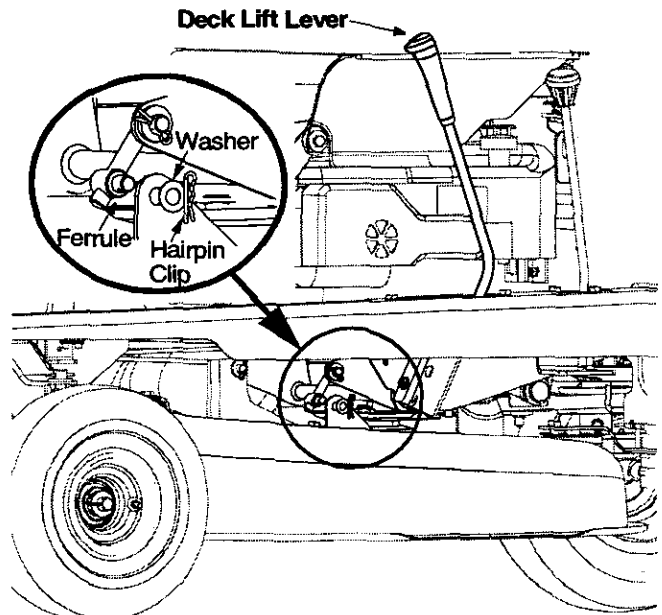

Figure 18
6. For levelling, remove the hairpin clip and flat washer shown in Figure 18. Thread the ferrule in or out as required.